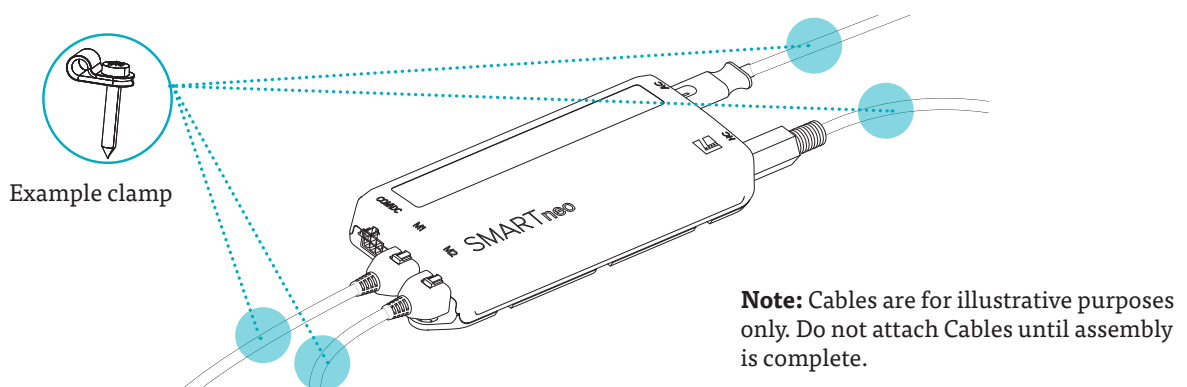

Fig. 3: Positioning the Cable Clamps
4. Attach Cable Clamps roughly 10 cm from any Plug Port that will be used (Fig.3).